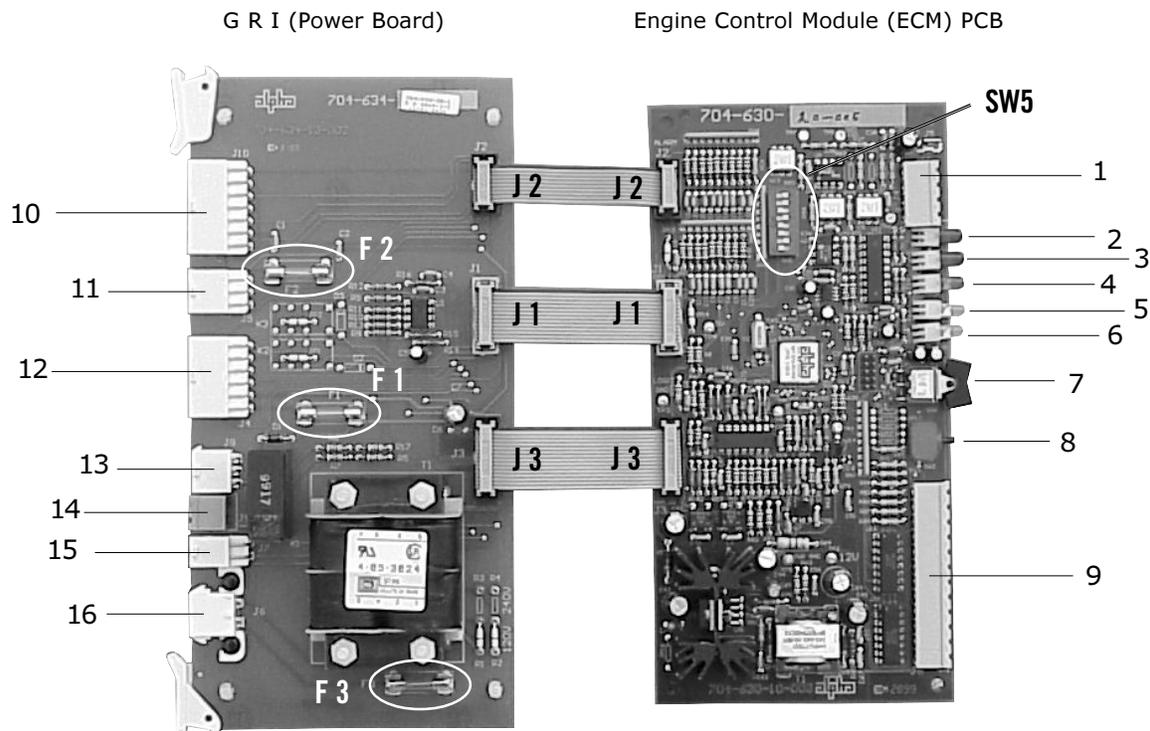

Fig.4-9 ECM Printed Circuit Boards
The connector is a 14 pin 0.100" spaced, 150V rated ribbon cable with polarized cable connectors that prevent incorrect connections in the field. Designations for the connector mounted on the PCBA shall be identified by silk screen "J1" and marked with the #1 pin of the PCB receptacle for polarization. See Fig. 4-9 for location.
This connector is a 10 pin 0.100" spaced, 150V rated ribbon cable with polarized cable connectors that prevent incorrect connections in the field. Designations for the connector mounted on the PCBA shall be identified by silk screen "J2" and marked with the #1 pin of the PCB receptacle for polarization. See Fig. 4-9 for location.
This connector is a 16 pin 0.100" spaced, 150V rated ribbon cable with polarized cable connectors that prevent incorrect connections in the field. Designations for the connector mounted on the PCBA shall be identified by silk screen "J3" and marked with the #1 pin of the PCB receptacle for polarization. See Fig. 4-9 for location.
The Alarm Interface Connector (J10) connected to the Power PCBA. The interface control is a 14-pin (2x7 row) Universal Mini Mate-'N'-Lok style male connector. See Fig. 4-9, item 10 for location.